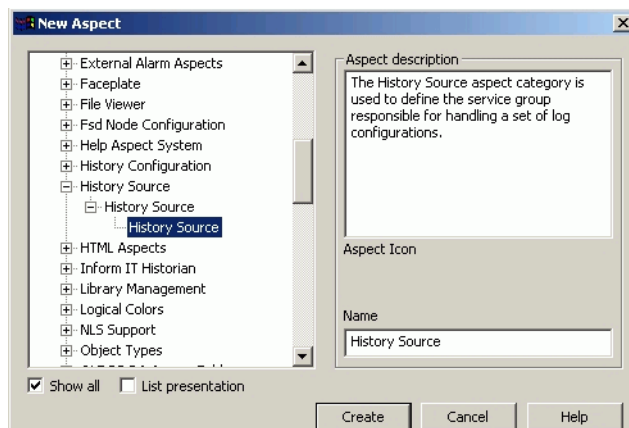

Figure 120. Selecting the History Source Aspect
2. Select **History Source** in the New Aspect dialog and click **Create**, Figure 120.